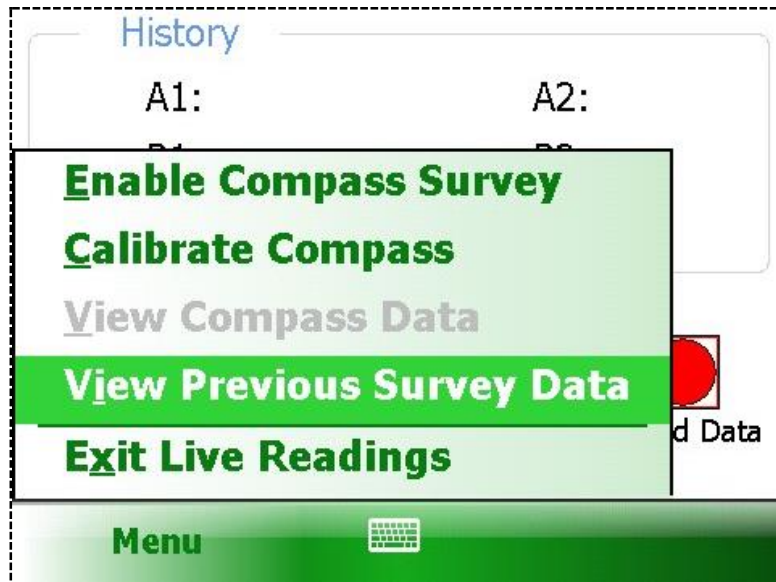

Figure 36- Menu option (Live Readings screen)
Figure 36 shows the available options from the Live Readings "Menu" item when a Digital Inclinometer/Compass probe is detected. These options are described below:
After typing in a command, tapping the “Return” (Enter) key will cause the command to be sent to the Remote Module. Figure 36 shows the response to a Firmware Version command (4).